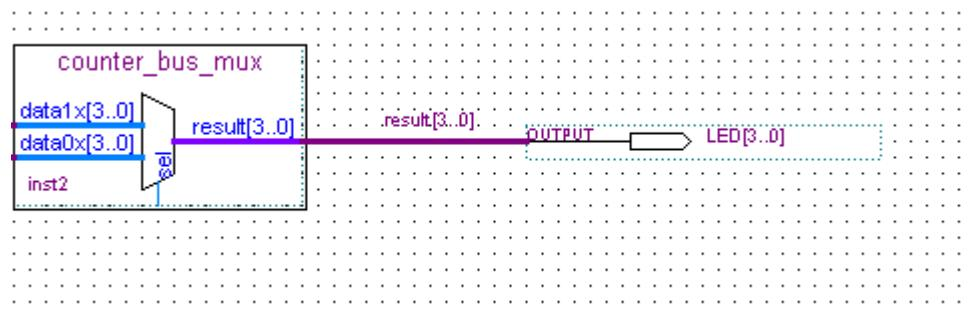

Figure 3-28 Rename the output pin
18. Rename the output pin as LED [3..0] as described in steps 13 c and d. (see Figure 3-28).